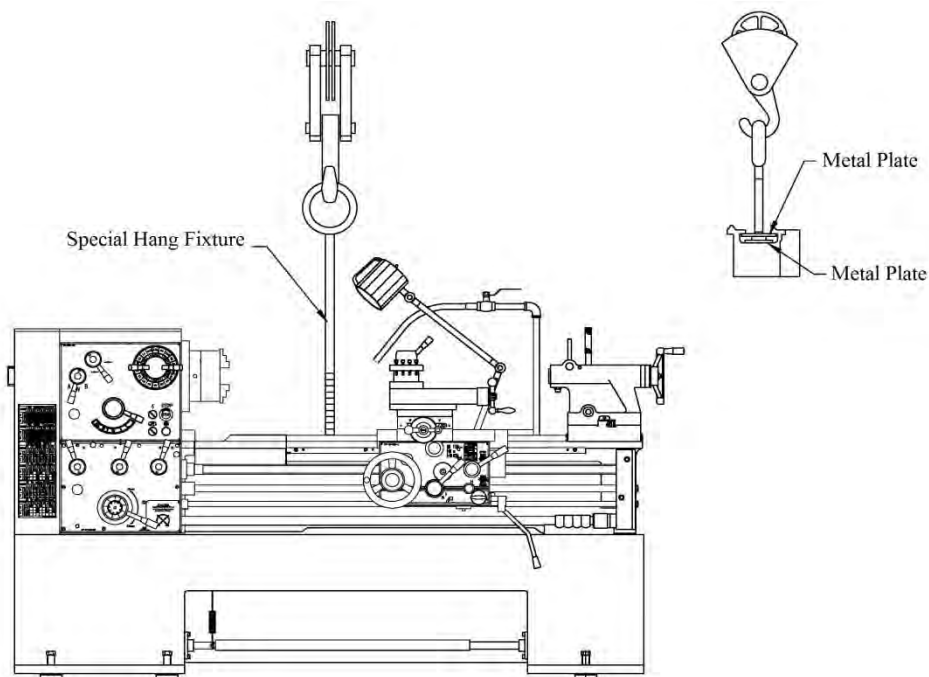

Figure 1
1. An overhead crane which the safety loading weight is rated more than the machine weight itself, and a special hand fixture for machine lifting. (shown in figure 1)